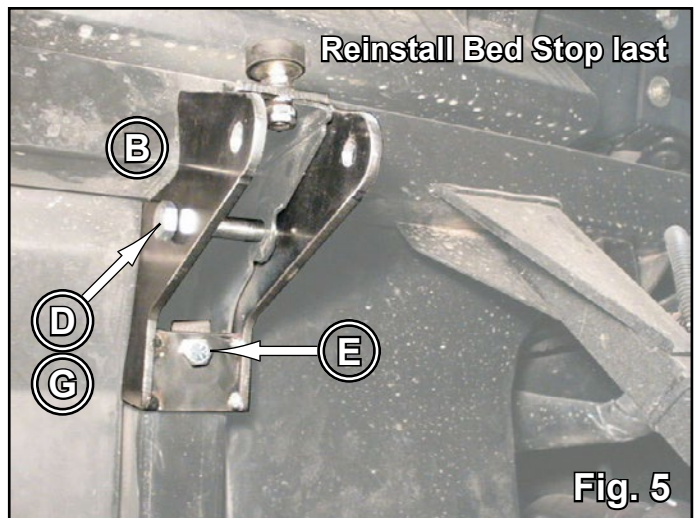

Fig. 5
3. Install Rear Lift Bracket (B) using (1) each M8-1.25 x 25mm Lg. HHCS (E), M10-1.5 x 65mm Lg. HHCS (D), and M10-1.5 Nylock Nut (G). See Fig. 5.
4. Reinstall Bed Stop. See Fig. 5.